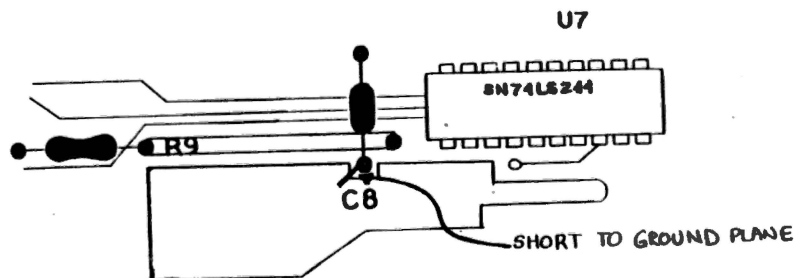

Figure 1
3. Check C8 to insure that the open pin is attached to the ground plane nearest it (Refer to Figure 1).